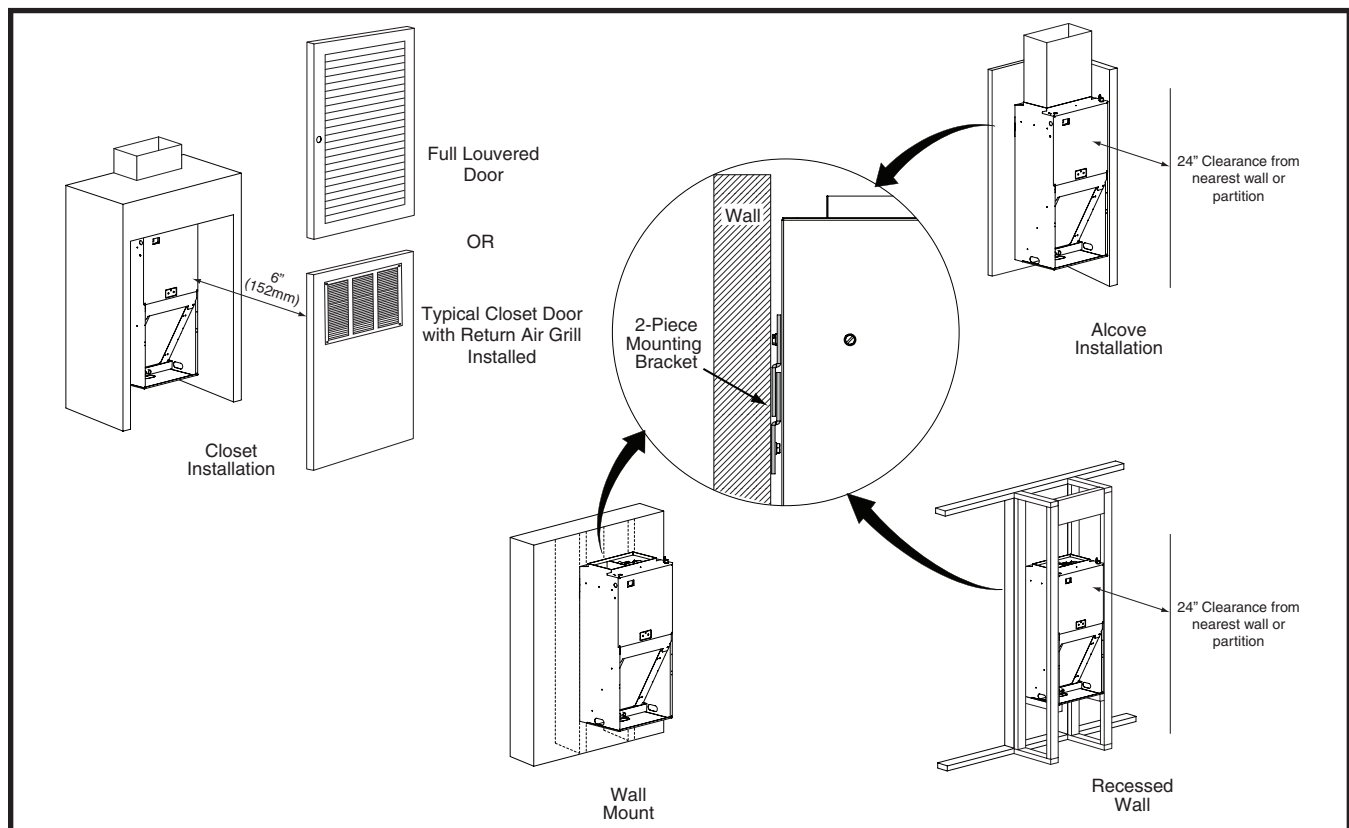

Figure 1. Unit Installation
The B64EW Air Handler is shipped ready for vertical upflow installation and can be mounted directly on a wall or recessed between framing studs as shown in Figure 1. Units are also approved for closet or alcove installation with zero clearance to combustibles. See Table 1 \(page 4\) for required installation clearances. **This appliance is only for indoor use.**
- If a louvered door is installed across the front of this unit, the appliance must be mounted flush or behind front edge of finished wall. See Figure 1.
If the air handler is recessed in a wall, attachment to the framing studs are through the inside of the front flange. For hanging applications, these units are provided with 2-piece offset hanging bracket (Figure 1) attached to the rear of the cabinet. Mounting bracket dimensions are shown in Figure 4 \(page 13\).